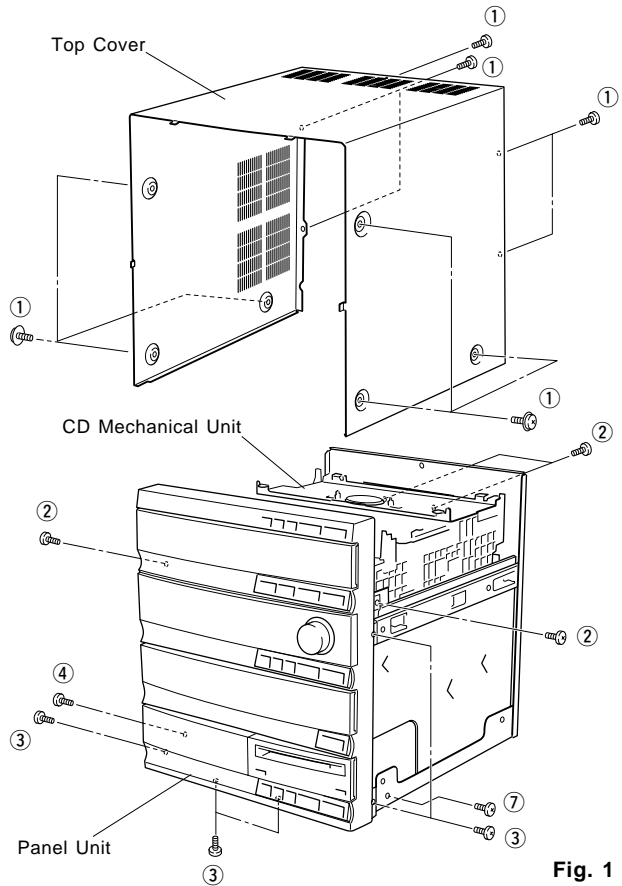
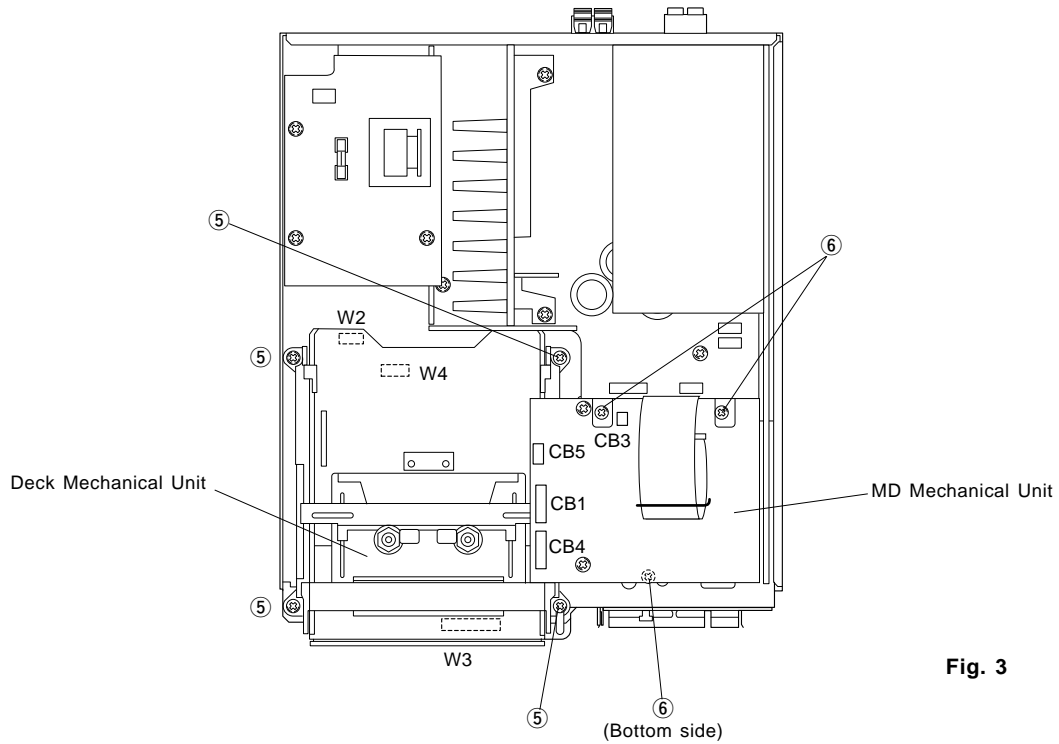

Fig. 1
Fig. 3
Remove 11 screws ( ① ) in Fig. 1.
- f. Remove 4 screws ( ② ) and then remove the CD Mechanical Unit in Fig. 1.
- d. Remove 6 screws ( ③ and ④ ) and then remove the Panel Unit in Fig. 1.
- a. Remove 4 screws ( ⑤ ) and then remove the Deck Mechanical Unit in Fig. 3.
- b. Remove 3 connectors ( W2, W3 and W4 ) in Fig. 3.
- a. Remove 3 screws ( ⑥ ) in Fig. 3 and 1 screw ( ⑦ ) in Fig. 1.
- b. Remove 4 connectors ( CB1, CB3, CB4 and CB5 ) in Fig. 3.